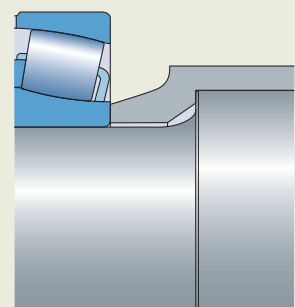

Fig. 18
- an adapter sleeve only (fig. 18), if no precise axial positioning is required and the axial loads do not exceed the friction between sleeve and shaft